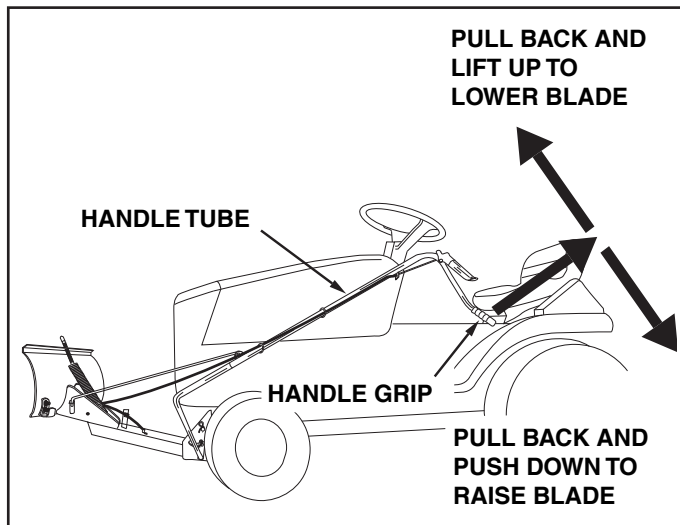

FIGURE 21
- Use the handle grip located on the end of the handle tube. To raise the blade, pull back while pushing down on the handle grip. To lower blade, pull back while lifting up on handle grip. See figure 21.